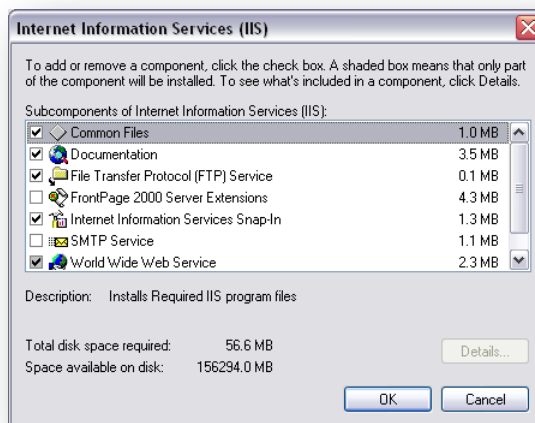

Figure 20 – Internet Information Services (IIS)
4. Uncheck SMTP Service, and click “OK”. See Figure 20.